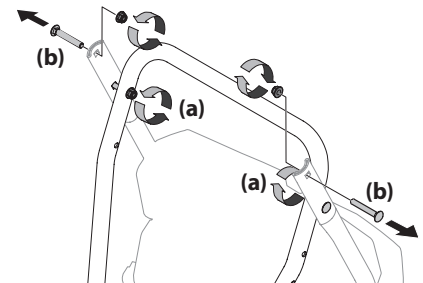

Figure 2-1
2. Loosen the top two nuts (a) securing the upper and lower handle and remove the two carriage screws (b) from the lower handle and set aside as shown in Figure 2-1.